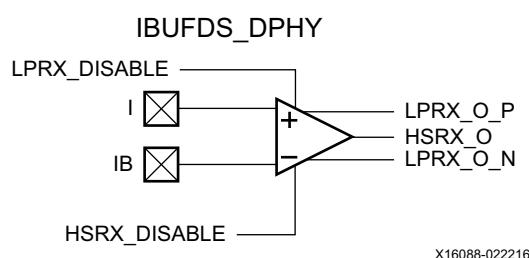

Figure 1-29: Differential Input Buffer Primitive (IBUFDS_DPHY)
The differential input buffer primitive (IBUFDS_DPHY) is only supported in the HP I/O banks in Virtex UltraScale+ devices (Figure 1-29), Kintex UltraScale+ devices, and Zynq UltraScale+ devices. This UltraScale architecture specific primitive is specifically meant for MIPI D-PHY receiver implementation. The HSRX_DISABLE port is used to enable or disable the MIPI D-PHY high-speed (HS) receiver. The LPRX_DISABLE port is used to enable or disable the low-power (LP) receiver. HSRX_O and LPRX_O(_P/_N) are inputs to the interconnect logic from the HS and LP receivers, respectively. The primitive only supports MIPI_DPHY_DCI as the value for the IOSTANDARD attribute.